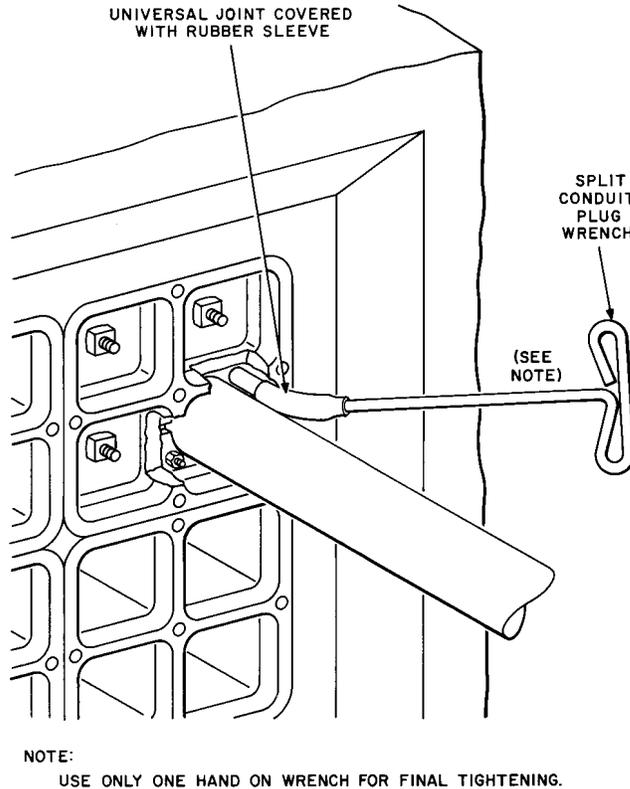

Fig. 5—Tightening Plug With Plug Wrench
5.06 Tighten the nuts with the split conduit plug wrench (Fig. 5), turning down each nut a little at a time so as to keep the pressure as uniform as possible on all sides. Too much tightening of one nut may displace the cable to one side and make access to the remaining nuts difficult. When all the nuts are equally firm, make the final tightening using the maximum effort of **one hand only** on the wrench. This produces approximately 4 foot/pounds torque which is usually adequate for making an effective seal.